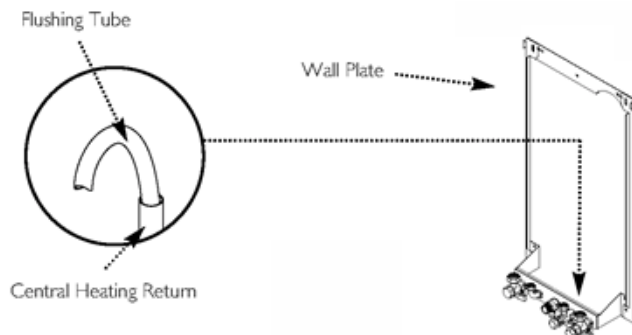

Fig. 34
1. Connect a tube to the central heating flow or return pipe (Fig. 34).